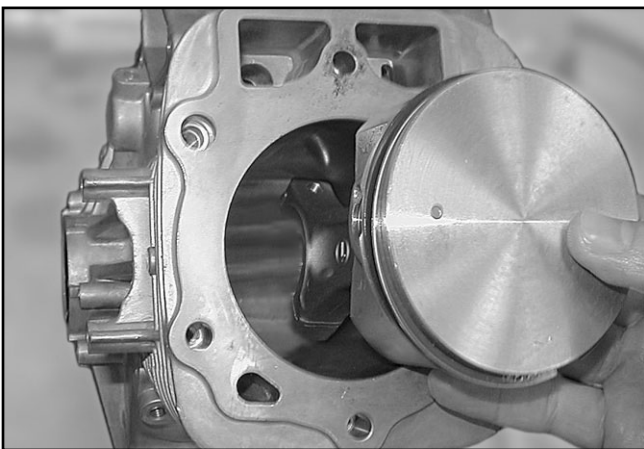

Figure 9-4. Remove Pistons and Connecting Rods
4. Remove No. 2 connecting rod cap and push connecting rod and piston assembly out of cylinder (Figure 9-4).